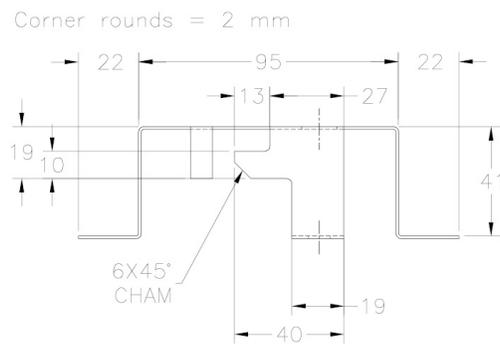
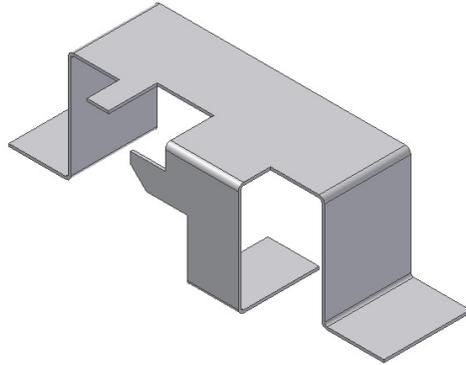

Figure 15-92d Front view of the Holder Clip
Figure 15-102 Sheet metal component after creating the new face and the corner chamfer
3. Similarly, again define a sketch plane on the front face of the third contour flange and create a new rectangular face by using the **Face** tool, refer to Figure 15-92d for dimensions.
4. Next, add the corner chamfer by using the **Corner Chamfer** tool, as shown in Figure 15-102, refer to Figure 15-92d for dimensions.